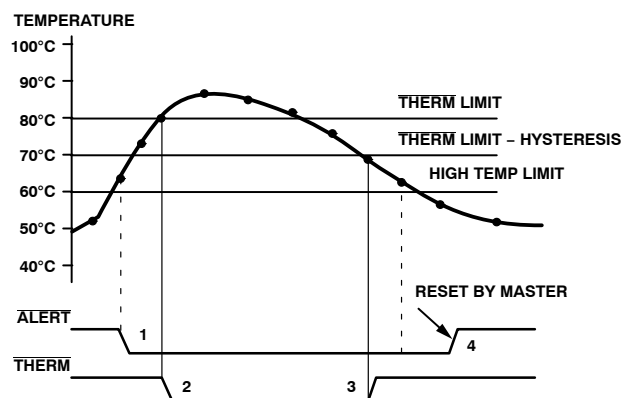

Figure 20. Operation of the $\overline{\text{ALERT}}$ and $\overline{\text{THERM}}$ Interrupts
Figure 20 shows how the $\overline{\text{THERM}}$ and $\overline{\text{ALERT}}$ outputs operate. A user may choose to use the $\overline{\text{ALERT}}$ output as an $\overline{\text{SMBALERT}}$ to signal to the host via the SMBus that the temperature has risen. The user could use the $\overline{\text{THERM}}$ output to turn on a fan to cool the system, if the temperature continues to increase. This method would ensure there is a fail-safe mechanism to cool the system without the need for host intervention.
3. The $\overline{\text{THERM}}$ output deasserts (goes high) when the temperature falls to $\overline{\text{THERM}}$ limit minus hysteresis. The default hysteresis value of 10°C is shown in Figure 20.